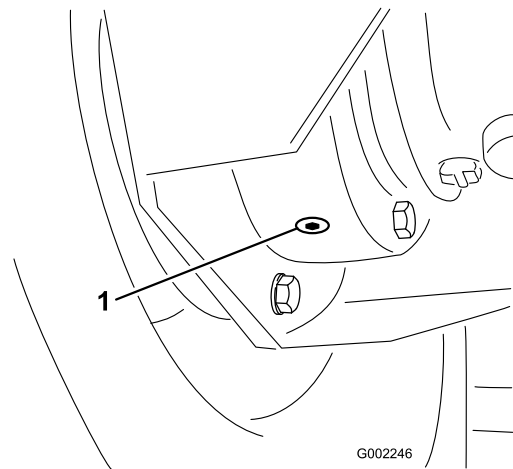

Figure 81
4. Place a drain pan under the inner drain plug and remove it (Figure 81).